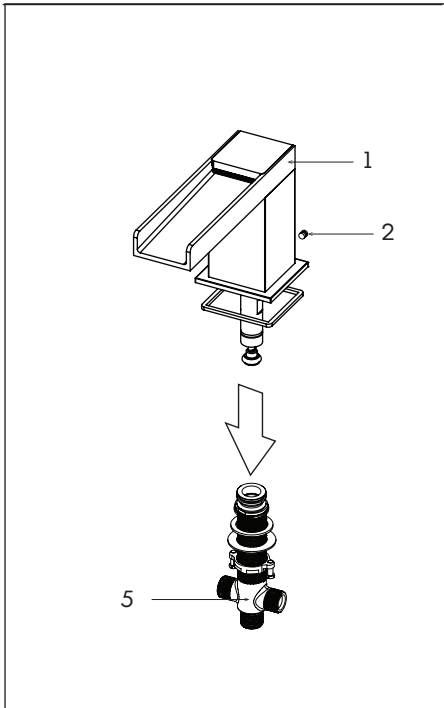

Fig.2
- Remove the Allen setscrew (2) and pull out the faucet body (1) from the shank (5). Fig.2.
- Dévisser la vis de retenue Allen (2) et séparer le bec (1) de son raccord (5). Fig.2.